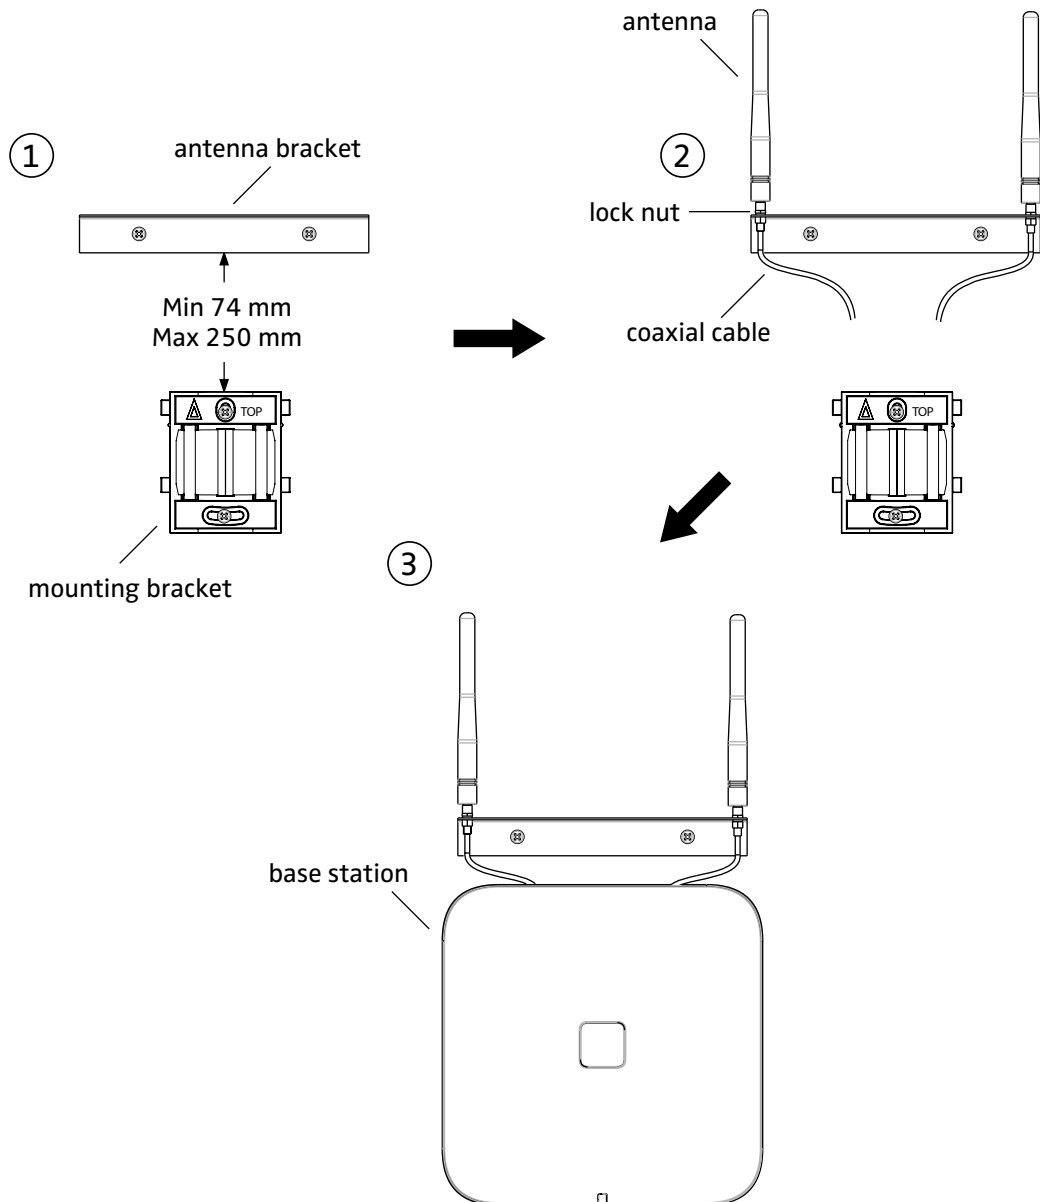

Figure 11. Connect external antennas.
- 1 Position the included antenna bracket above the mounting bracket with a minimum distance of 74 mm (250 mm maximum) and mark the two holes for the antenna bracket, see figure 11 on page 31 (1).
- 4 Mount the two included coaxial cables on the antenna bracket figure 11 on page 31 (2). Fasten the coaxial cables with the lock nuts which are found on the coaxial cable antenna connectors.
- 5 Mount the antennas on the antenna connectors (2).
- 7 Mount the base station (3), see 5.2.9 Mount the Base Station on page 33.